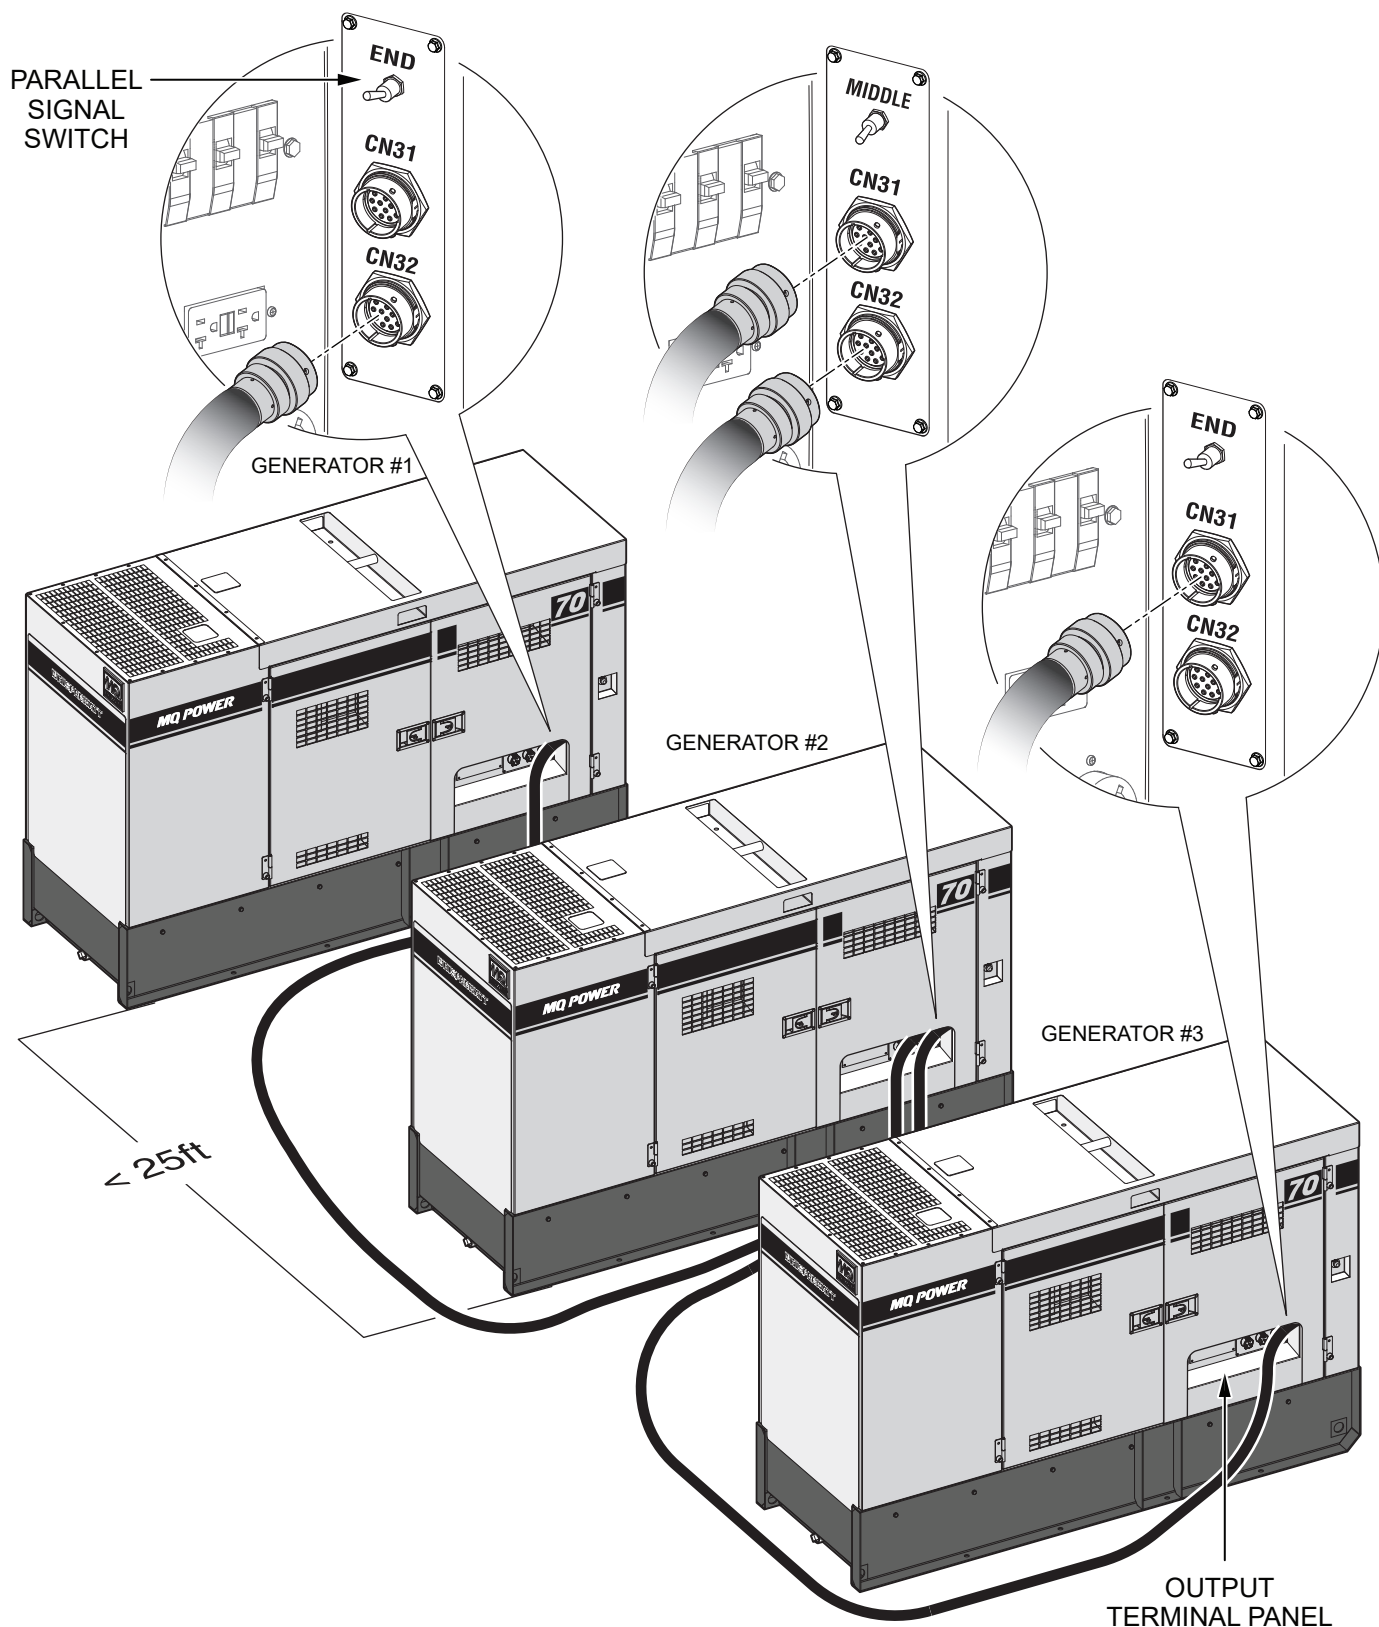

Figure 71. Communication Cable Connections (Three Or More Generators)
1. Make sure the spacing between each generator does not exceed **25 feet (7.62 m)**. See Figure 71.
2. **On generator #1**, connect the male end of a 25-foot (7.62-meter) communication cable to the female parallel operation receptacle labeled **CN32** (Figure 71).
3. **On generator #2**, connect the female end of the communication cable to the male parallel operation receptacle labeled **CN31** (Figure 71).
4. **On generator #2**, connect the male end of another 25-foot (7.62-meter) communication cable to the female parallel operation receptacle labeled **CN32** (Figure 71).
5. **On generator #3**, connect the female end of the communication cable to the male parallel operation receptacle labeled **CN31** (Figure 71).
6. Connect any remaining generators to the system using additional communication cables as shown in Figure 71.
7. **On generator #1**, place the **Parallel Signal switch** in the **END** (up) position (Figure 71).
8. **On the last generator in the system**, place the **Parallel Signal switch** in the **END** position (Figure 71).
9. **On each generator located in between the first and last generators**, place the **Parallel Signal switch** in the **MIDDLE** (down) position (Figure 71).